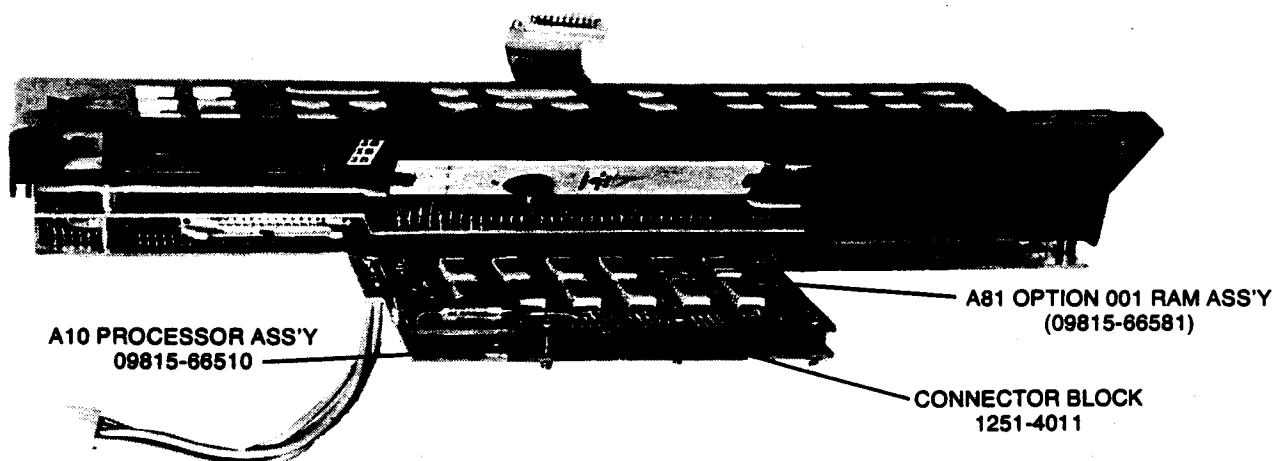

Figure 1-2. Option 001 Installation
- Place the option RAM assembly (A81), component side up, on the back of the A10 processor assembly (see Figure 1-2). Ensure that the connector block is correctly installed between the PC assemblies.